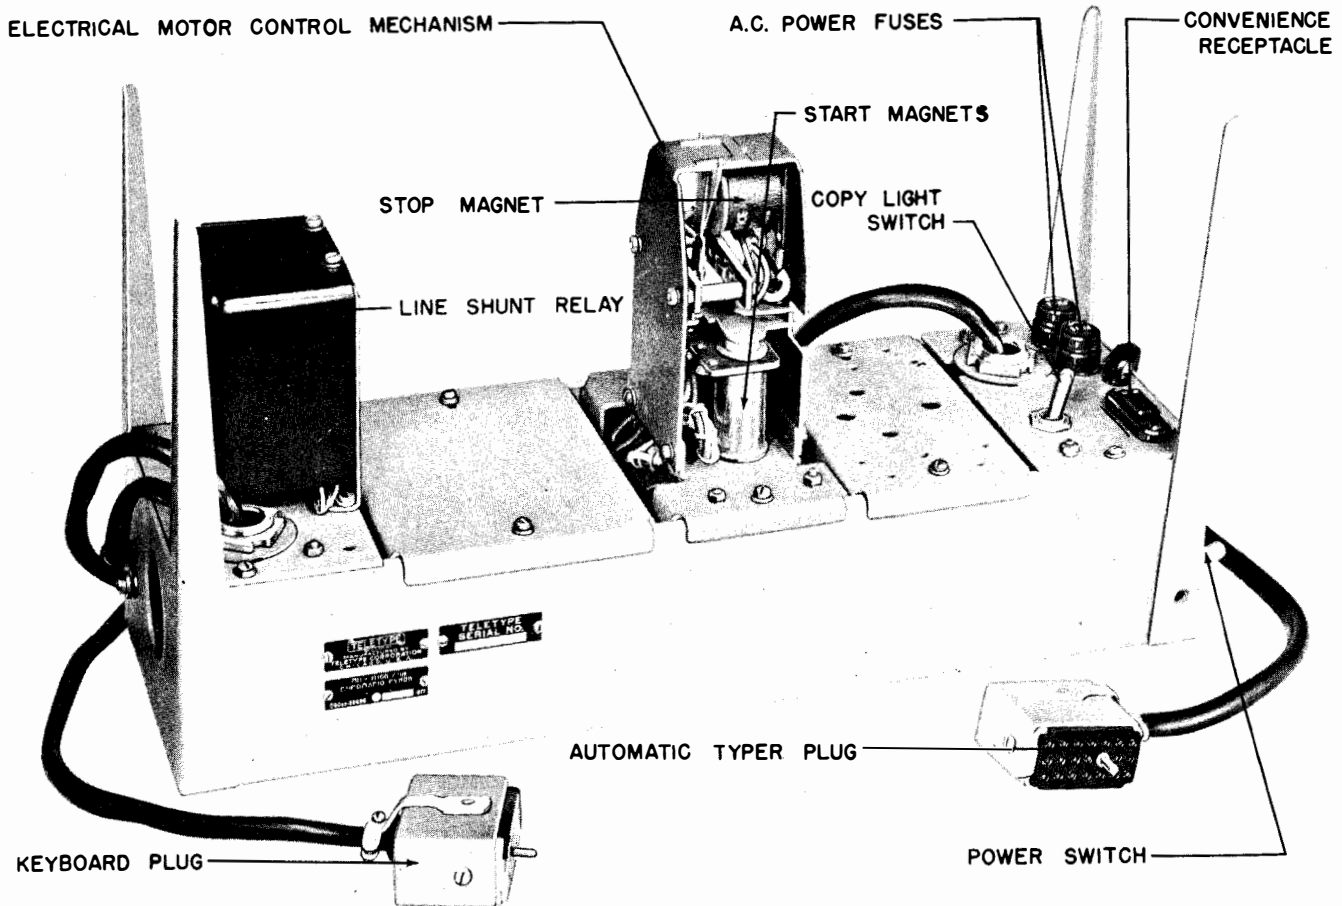
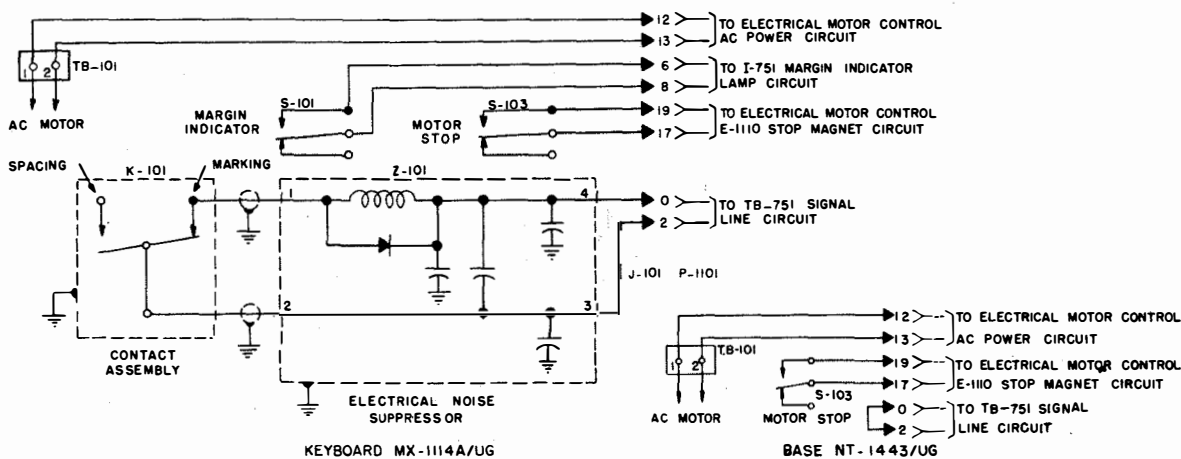
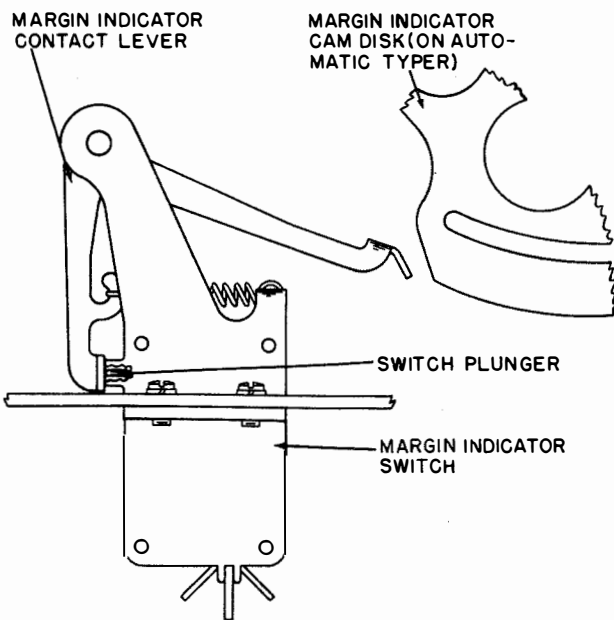

Figure 1-13. Power Distribution Panel SB-154A/UG
Figure 2-3. Keyboard MX-1114A/UG, Base NT-1443/UG, Schematic Wiring Diagram
Figure 2-29. Margin Indicator Mechanism
e. POWER DISTRIBUTION PANEL SB-154A/UG. (See figure 1-13.)—The Power Distribution Panel is located in the upper compartment of the Cabinet. It incorporates motor control circuit elements, receptacles, fuses, switches, etc., which are associated with the power and signal line circuits.
a. GENERAL.—The Keyboard consists essentially of an intermediate shaft assembly, a code bar mechanism, and a signal generator. It also contains the time delay and margin indicator switch mechanisms, and provides mounting facilities for the Automatic Typer MX-1115A/UG and for either the PD-17A/U or PD-18/U AC Motor. At the time the Keyboard is installed in its Cabinet, a connector P-1101 on the end of a rubber covered cable which emanates from the Power Distribution Panel SB-154A/UG (figure 1-13), is plugged into a receptacle J-101 mounted on the top left rear corner of the Keyboard (figures 1-2 and 1-11). See figure 2-3 for schematic wiring. In operation, the motor drives the intermediate shaft assembly which furnishes motive power to the automatic typer main shaft (figures 1-5 and 1-7). This, in turn, drives the signal generator helical driven gear which is connected to the keyboard clutch drum by a sleeve. Thus, the keyboard clutch drum is caused to rotate continually while the motor is running. The transmitting cam-clutch assembly of the signal generator mechanism remains stationary except when motion is extended to it from the keyboard clutch drum. Engagement of the clutch is brought about by the operation of any key in the lower three rows (green), or the space bar, and a transmitting cycle is then initiated.
k. **MARGIN INDICATOR MECHANISM.**—The margin indicator cam disk on the automatic typer spring drum rotates with the drum as printing or spacing occur. See paragraph 4.g.(1) of this section. As the end of each line is approached, the cam surface of the disk makes contact with the margin indicator contact lever and rotates it clockwise about its pivot point (figure 2-29). When the contact lever leaves the switch plunger, the switch S-101 operates and closes the circuit to a margin indicator light I-751 in the Cabinet (figures 2-3 and 2-79). A carriage return cycle returns the cam disk to its starting position and the margin indicator light switch opens.